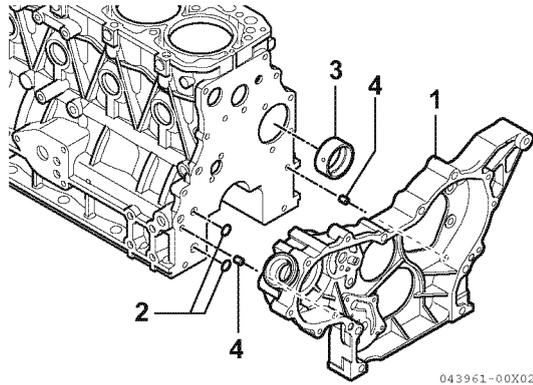

Figure 6-56
6. **3TNV88C - 4TNV86CT:** Remove two O-rings (2, **Figure 6-56**) and two dowels (4, **Figure 6-56**).